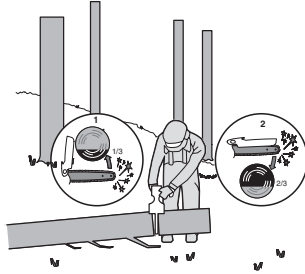

Figure 3
When the log is supported on one end, as illustrated in Figure 3, cut 1/3 the diameter from the underside (underbuck) (1). Then make the